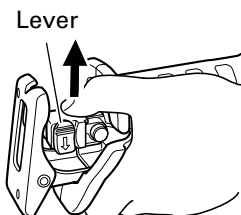

Fig. 6
- (4) When you release the lever, the spring force will return the lever to the correct position automatically. (Fig. 6)